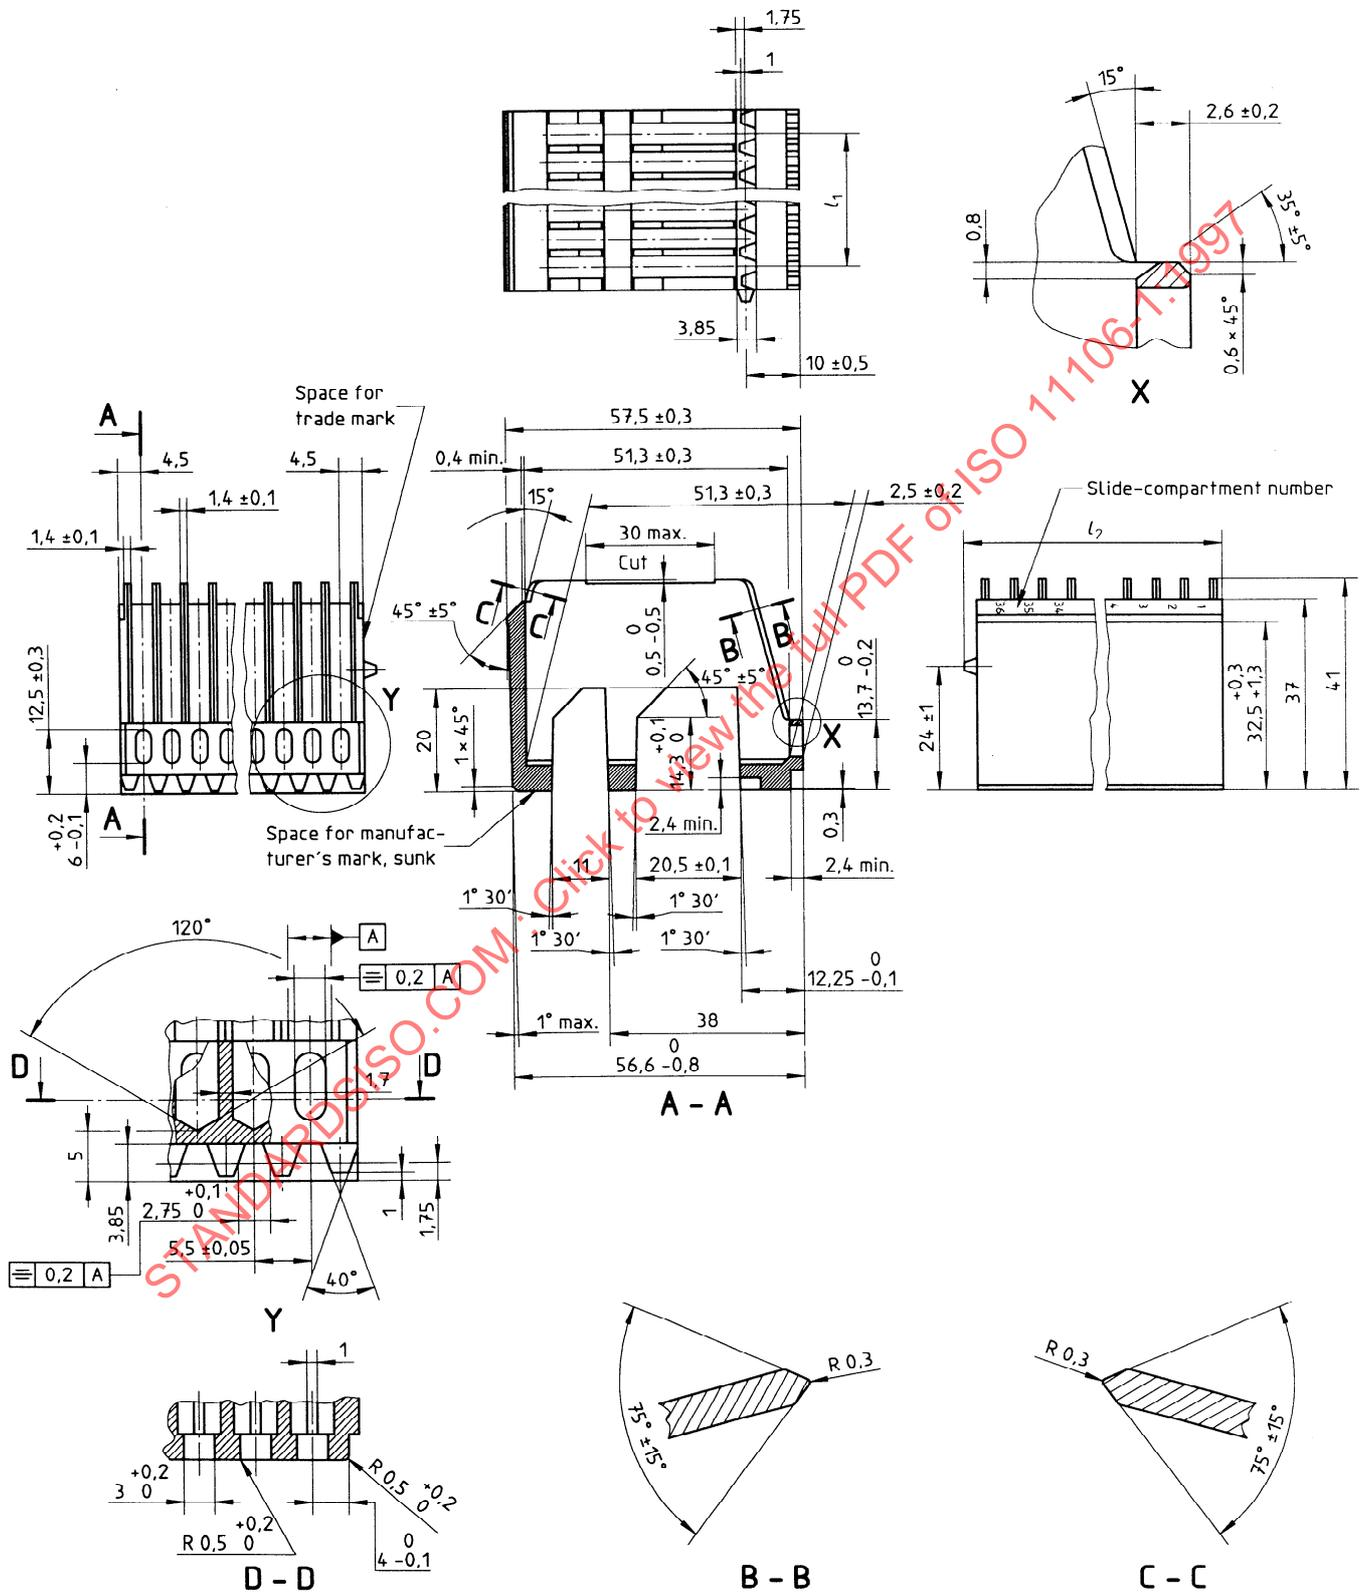

Figure 1 — Straight slide tray
4.3 The dimension from the first to the last tooth-space centre shall be respected. The allowed symmetry tolerance from the tray compartment to the slot in the lower side wall and to the tooth spaces of the two-toothed racks shall not be exceeded (see detail Y in figure 1).
4.4 The flank dimensions of the shortened first and last tip of tooth (see detail Y, dimension 1 mm in figure 1) shall not deviate, in order to guarantee trouble-free functioning when inserting the straight tray into the tray track. At least the joint at the dimension 1 mm shall be within the flank tolerance.